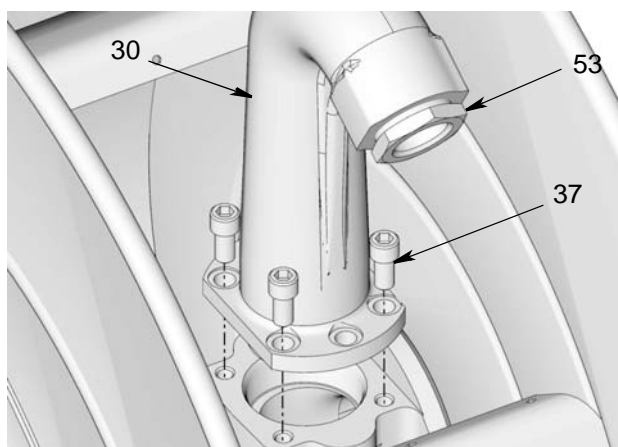

FIG. 6: Low Pressure Outlet shown. Medium Pressure models use 6 bolts.
3. For easier hose installation, Graco recommends removing the outlet (30) from the spool. To do this remove bolts (37) holding outlet to the spool (FIG. 6).
4. Apply pipe thread sealant or wrap PTFE tape around the threads of reducer (53) (if needed). Then install reducer (53) in the end of the outlet (FIG. 6). Use two wrenches on the flats, working in opposite directions, to securely tighten the reducer to the outlet fitting.